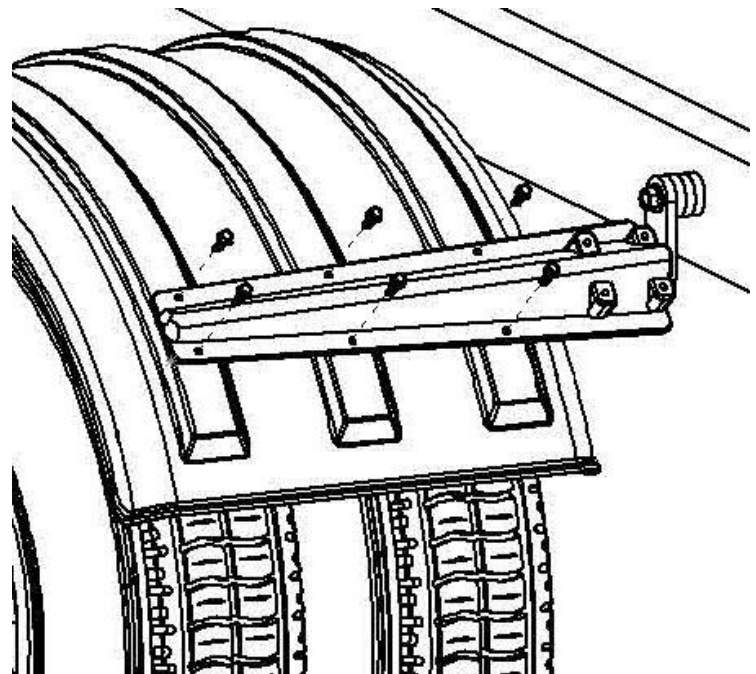

Figure 11
- e. Make sure the fenders are square and aligned (Figure 11). Twists or bows in the fender will fatigue the material over time.